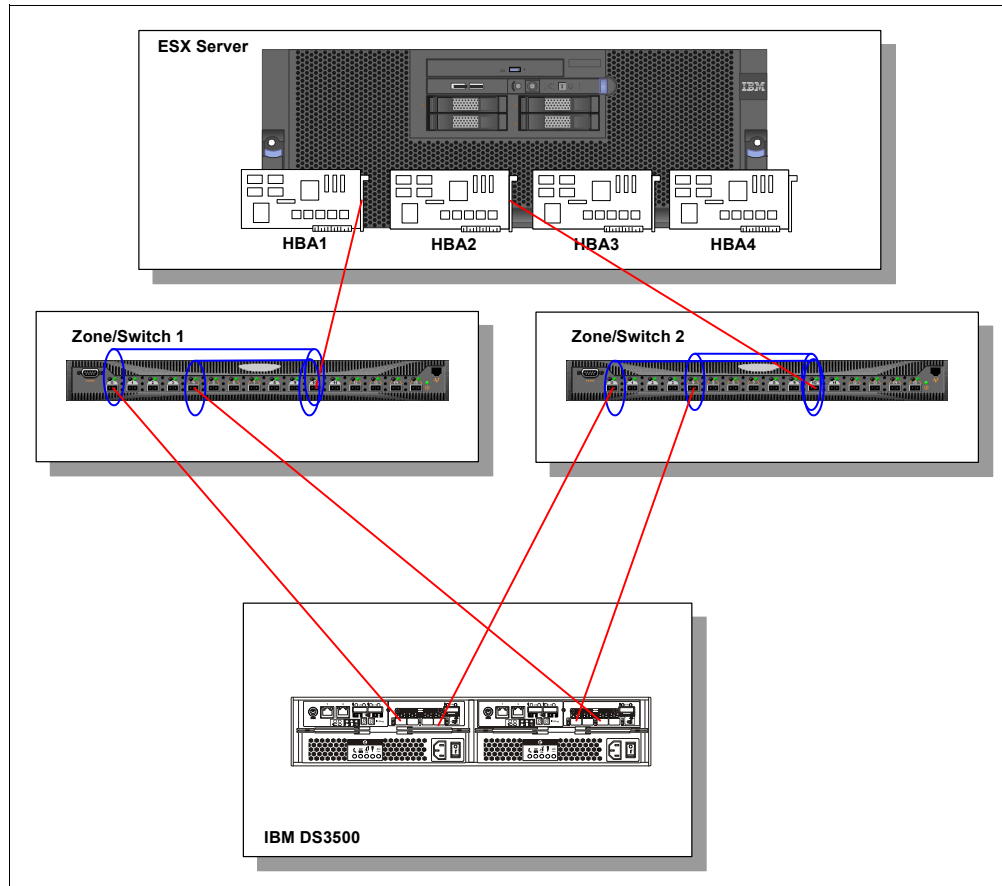

Figure 22-1 Paths Between the VMware ESX Server and the DS3500 Storage System
As recommended by VMware, we set up four paths between the server and the storage system as shown in Figure 22-1. At least two VMware ESX Server HBA ports must be used, and both HBA ports must see both controllers.
1. Zoning: Zone your VMware ESX Server to your IBM DS3500 Storage Subsystem. Ensure that your VMware environment has sufficient paths and connections for redundancy and high availability. See Figure 22-1.